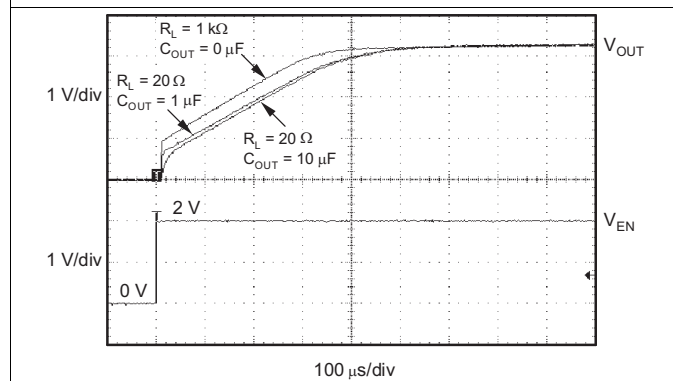

**Figure 21. TPS73133 Turnon Response**
The enable pin (EN) is active high and is compatible with standard TTL-CMOS levels. A  $V_{EN}$  below 0.5 V (maximum) turns the regulator off and drops the GND pin current to approximately 10 nA. When EN is used to shutdown the regulator, all charge is removed from the pass transistor gate, and the output ramps back up to a regulated  $V_{OUT}$  (see Figure 21).